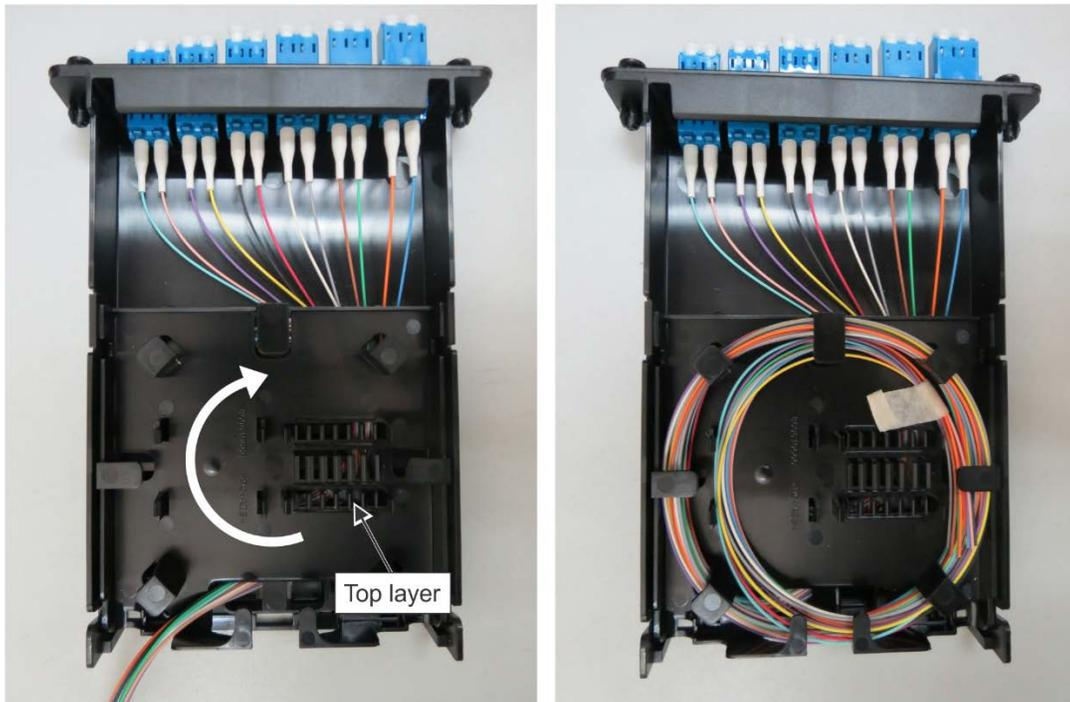

Figure 15. Route Pigtail
1. Install the top housing first and loosely spool fibers clockwise around fiber drum on the top layer until all fibers are coiled inside the cassette (Figure 15).